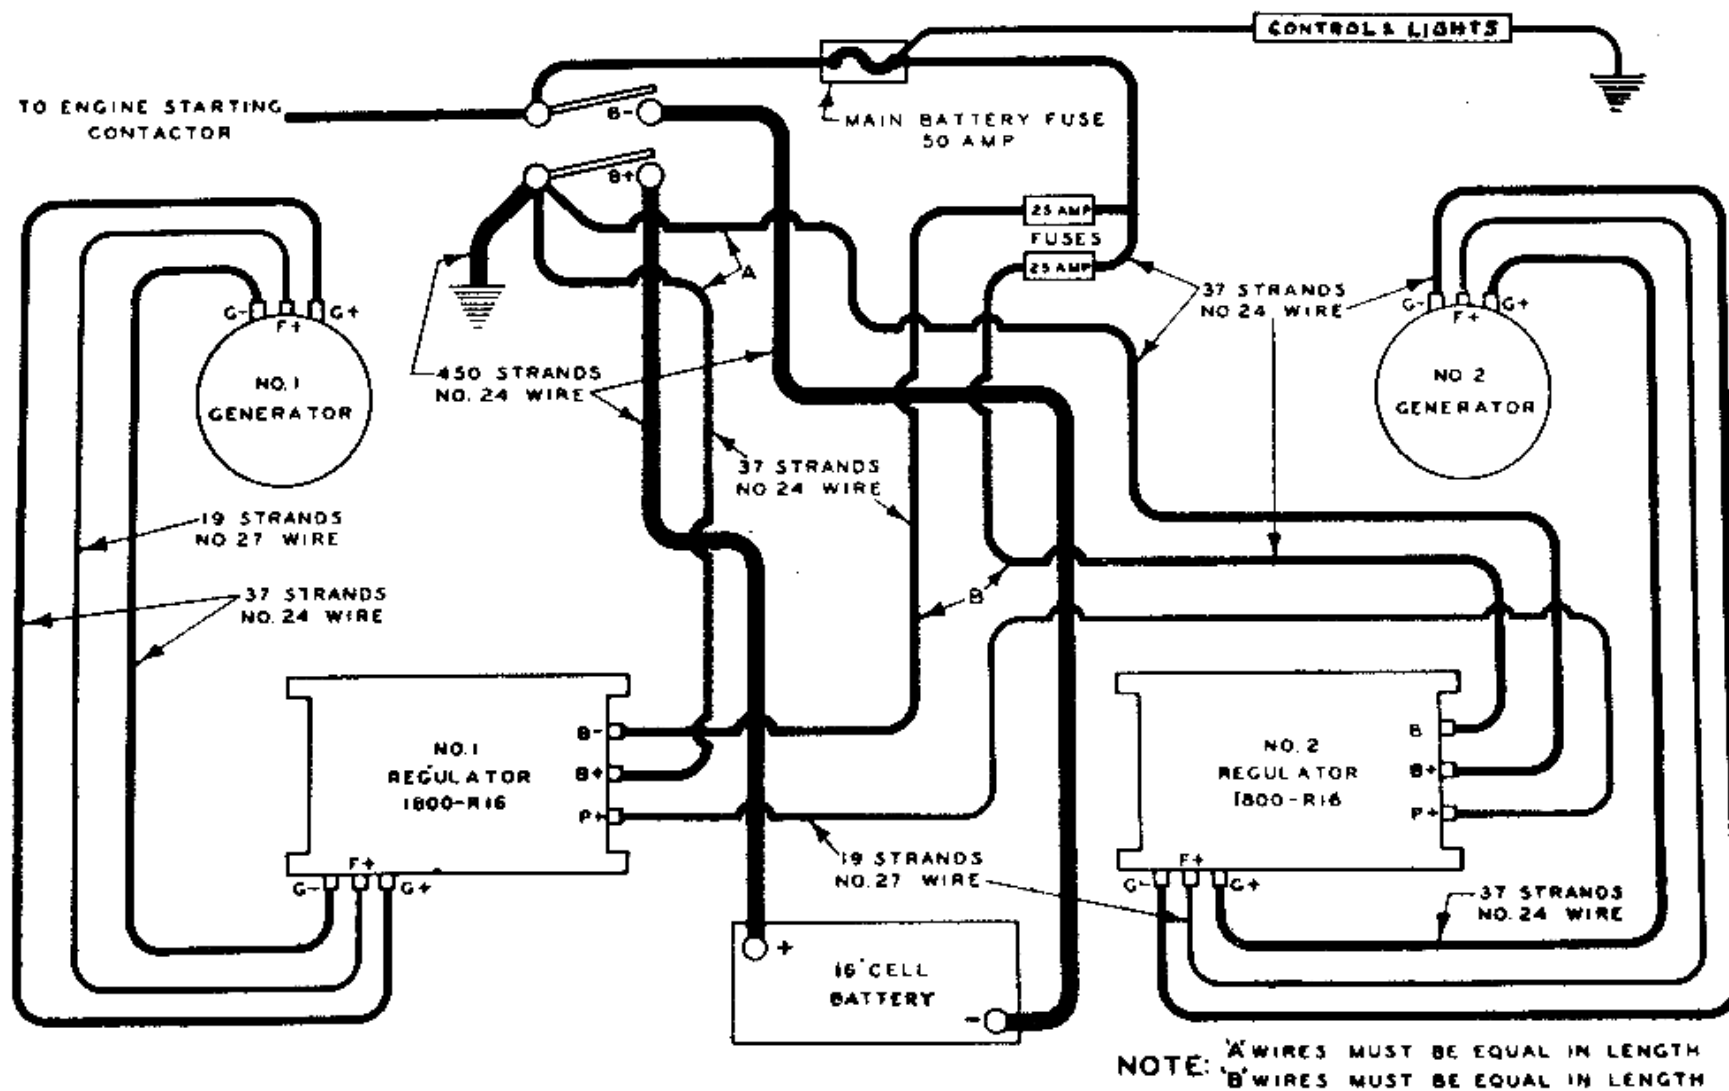
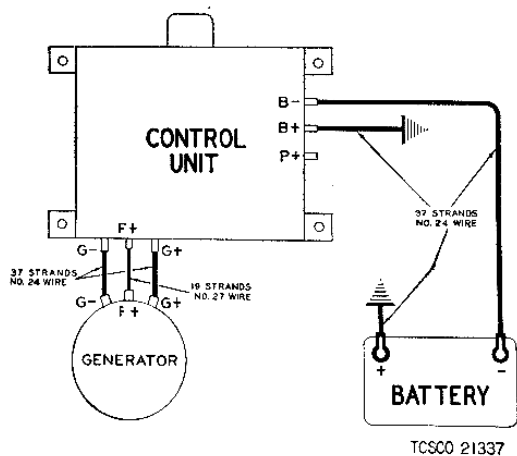

Figure 31. Regulator connection diagram.
Figure 33. Basic connection diagram.
c. When the equipment is adjusted in the locomotive, the units should be connected according to the diagram shown in figure 32. If adjustments are made on a test bench, connections should be made as shown in figure 33. For parallel connections (the use of two regulators and two generators) refer to figure 31.